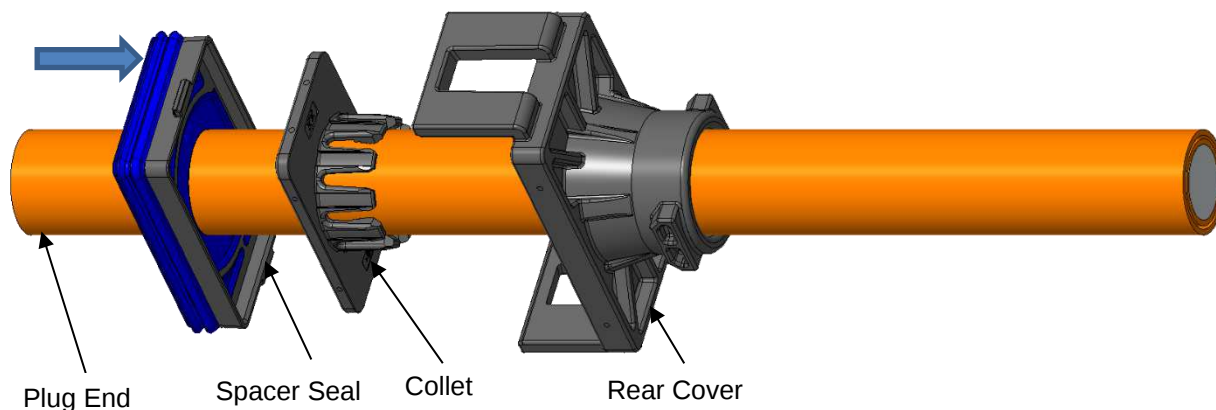

Figure 4: Rear cover, collet, and spacer seal loaded on cable
1. From the plug end of the cable slide the rear cover, collet, and spacer seal in the order and orientation as shown in Figure 4.